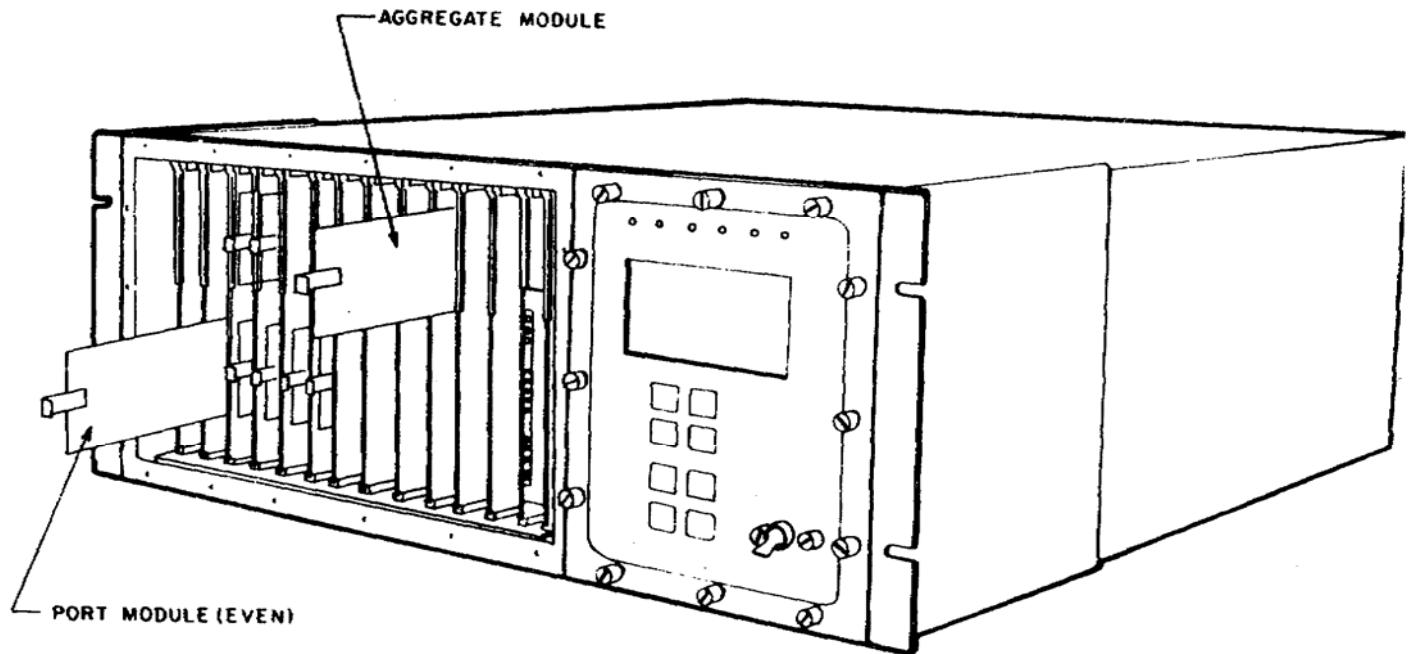

Figure 5. Removal of Port and Aggregate Modules.
(1) User specified modules. Each port carrier can have up to two port modules, but each aggregate carrier must have one aggregate module.
- (b) Slide module from appropriate carrier module (see figure 5).
- (2) Common equipment modules, except interface.
- (3) Interface module.